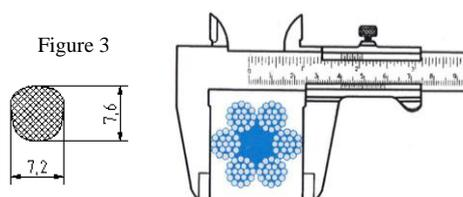

Figure 3
- Minimum diameter of about 7.4 mm. (For the cable Ø 8.3 mm)- Figure 3.